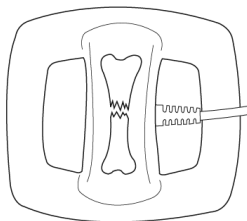

Figure 3
4. Center treatment coil directly over fracture site as prescribed by your physician and secure strap. (Figure 3)